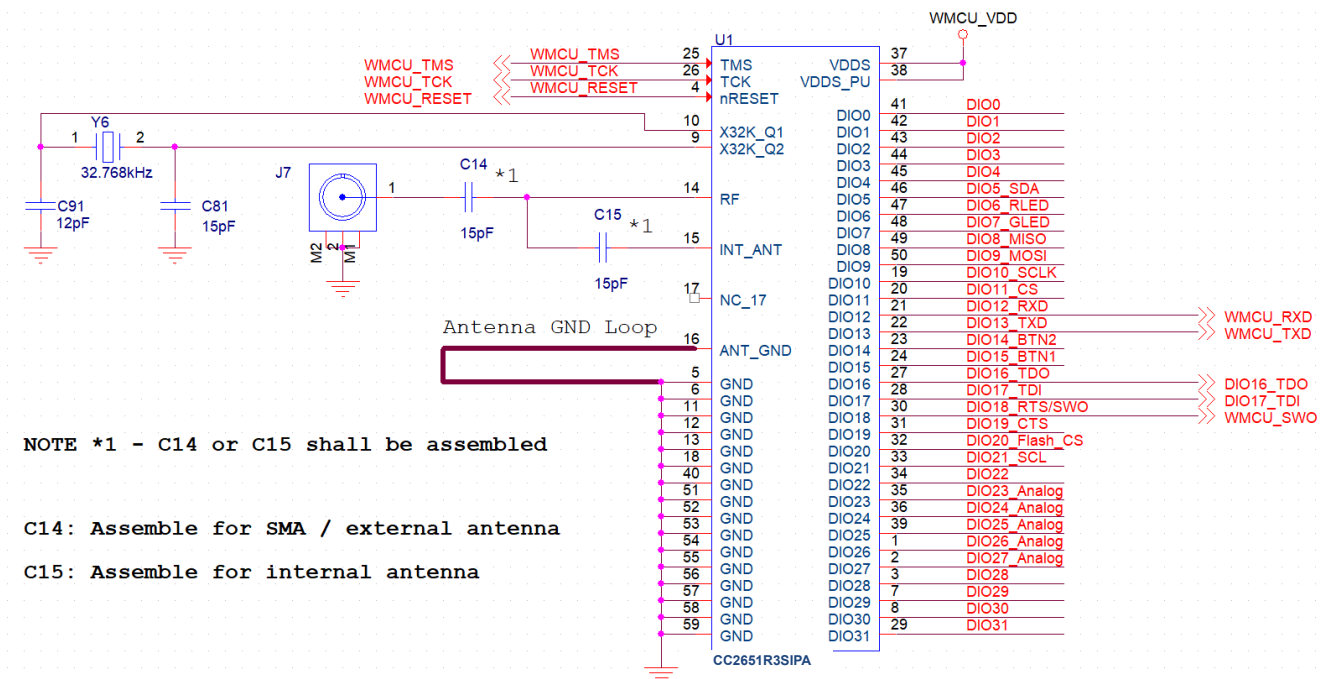

Figure 10-1. CC2651R3SIPA Typical Application Schematic
Figure 10-1 shows the typical application schematic using the the CC2651R3SIPA module. Note that C15 should be assembled when using the integrated antenna option within the module. C14 should be assembled if the module is to be used with an external antenna. In addition if using the external antenna option, Pin 16 of the module can be left unconnected. For the full reference schematic, download the LP-CC2651R3SIPA Design Files.
Table 10-1 provides the bill of materials for a typical application using the CC2651R3SIPA module in Figure 10-1. For full operation reference design, see the LP-CC2651R3SIPA Design Files.
In order to meet the module power-on-reset requirements, VDDS (Pin 37) and VDDS_PU (Pin 38) should be connected together. If the reset signal is not based upon a power-on-reset and is derived from an external MCU, then VDDS_PU (Pin 38) should be No Connect (NC). Please refer to Figure 10-1 for the recommended circuit implementation.